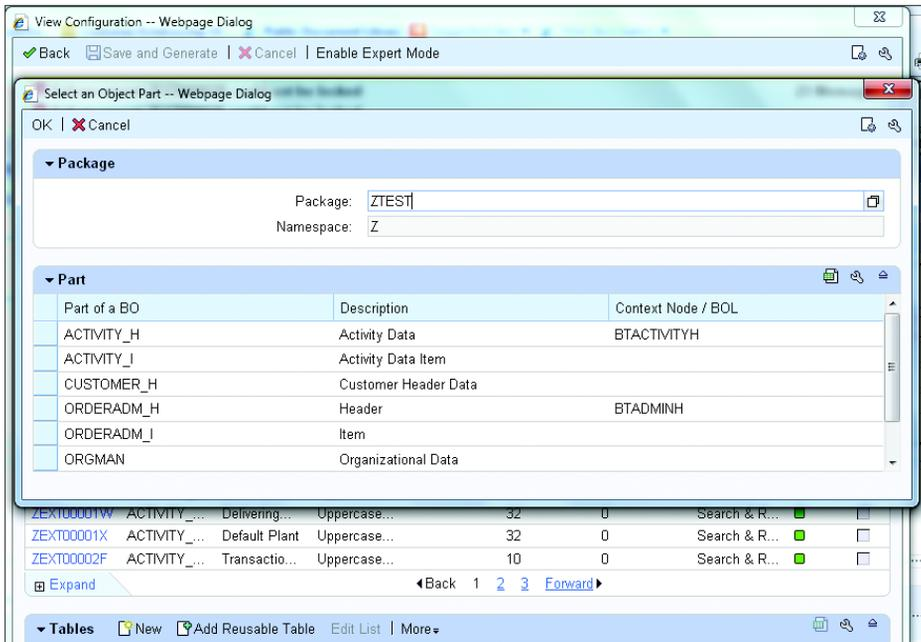

Figure 8.61 Package Selection
- On selecting the object, a popup appears where you must select the package for adding this field. Select ACTIVITY_H to add the field to BTACTIVITYH in the CONTEXT NODE/BOL column (see Figure 8.61).